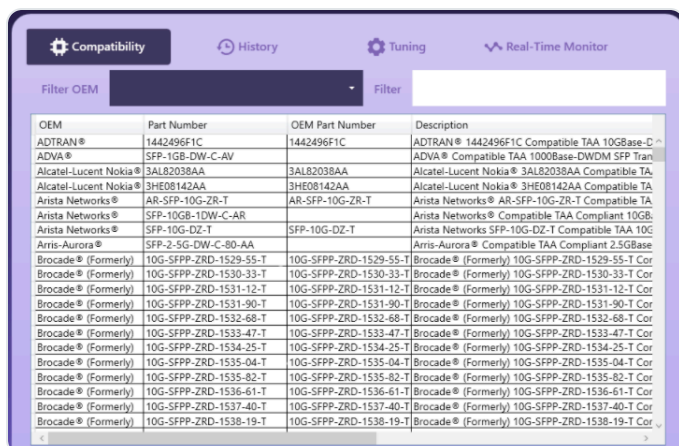

Figure 5 · Compatibility section — OEM filter and search
- 5 In the **Compatibility** section, use the OEM drop-down filter or text search to find the desired compatibility code (Figure 5).